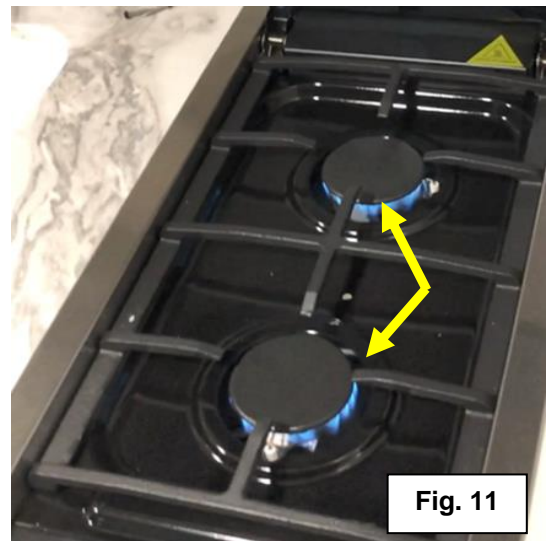

Fig. 12
- i. Figure 11 show flame to be inverted (flames are turned downwards towards cooktop pan). Figures 12 & 13 show the flame to be normal flames are turned upwards away from cooktop.